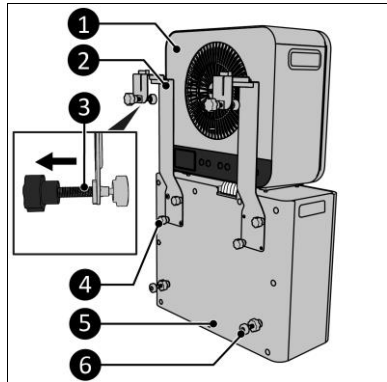

Figure 7
2. Place the indoor unit (Figure 7, pos. 1) loose on top of the outdoor unit (Figure 7, pos. 5).
3. Remove the four screw caps (Figure 7, pos. 4).
4. Attach both bottom caravan brackets (Figure 7, pos. 2) to the outdoor unit by tightening two screws per bracket (Figure 7, pos. 4).
5. Make sure to screw the adjustment bolts (Figure 7, pos. 3) as far out as possible.
6. Attach the distance holders (Figure 7, pos. 6) to the outdoor unit (Figure 7, pos. 5).
14. Make sure the outdoor unit is level by adjusting the distance screws spacer (Figure 7, pos. 6).